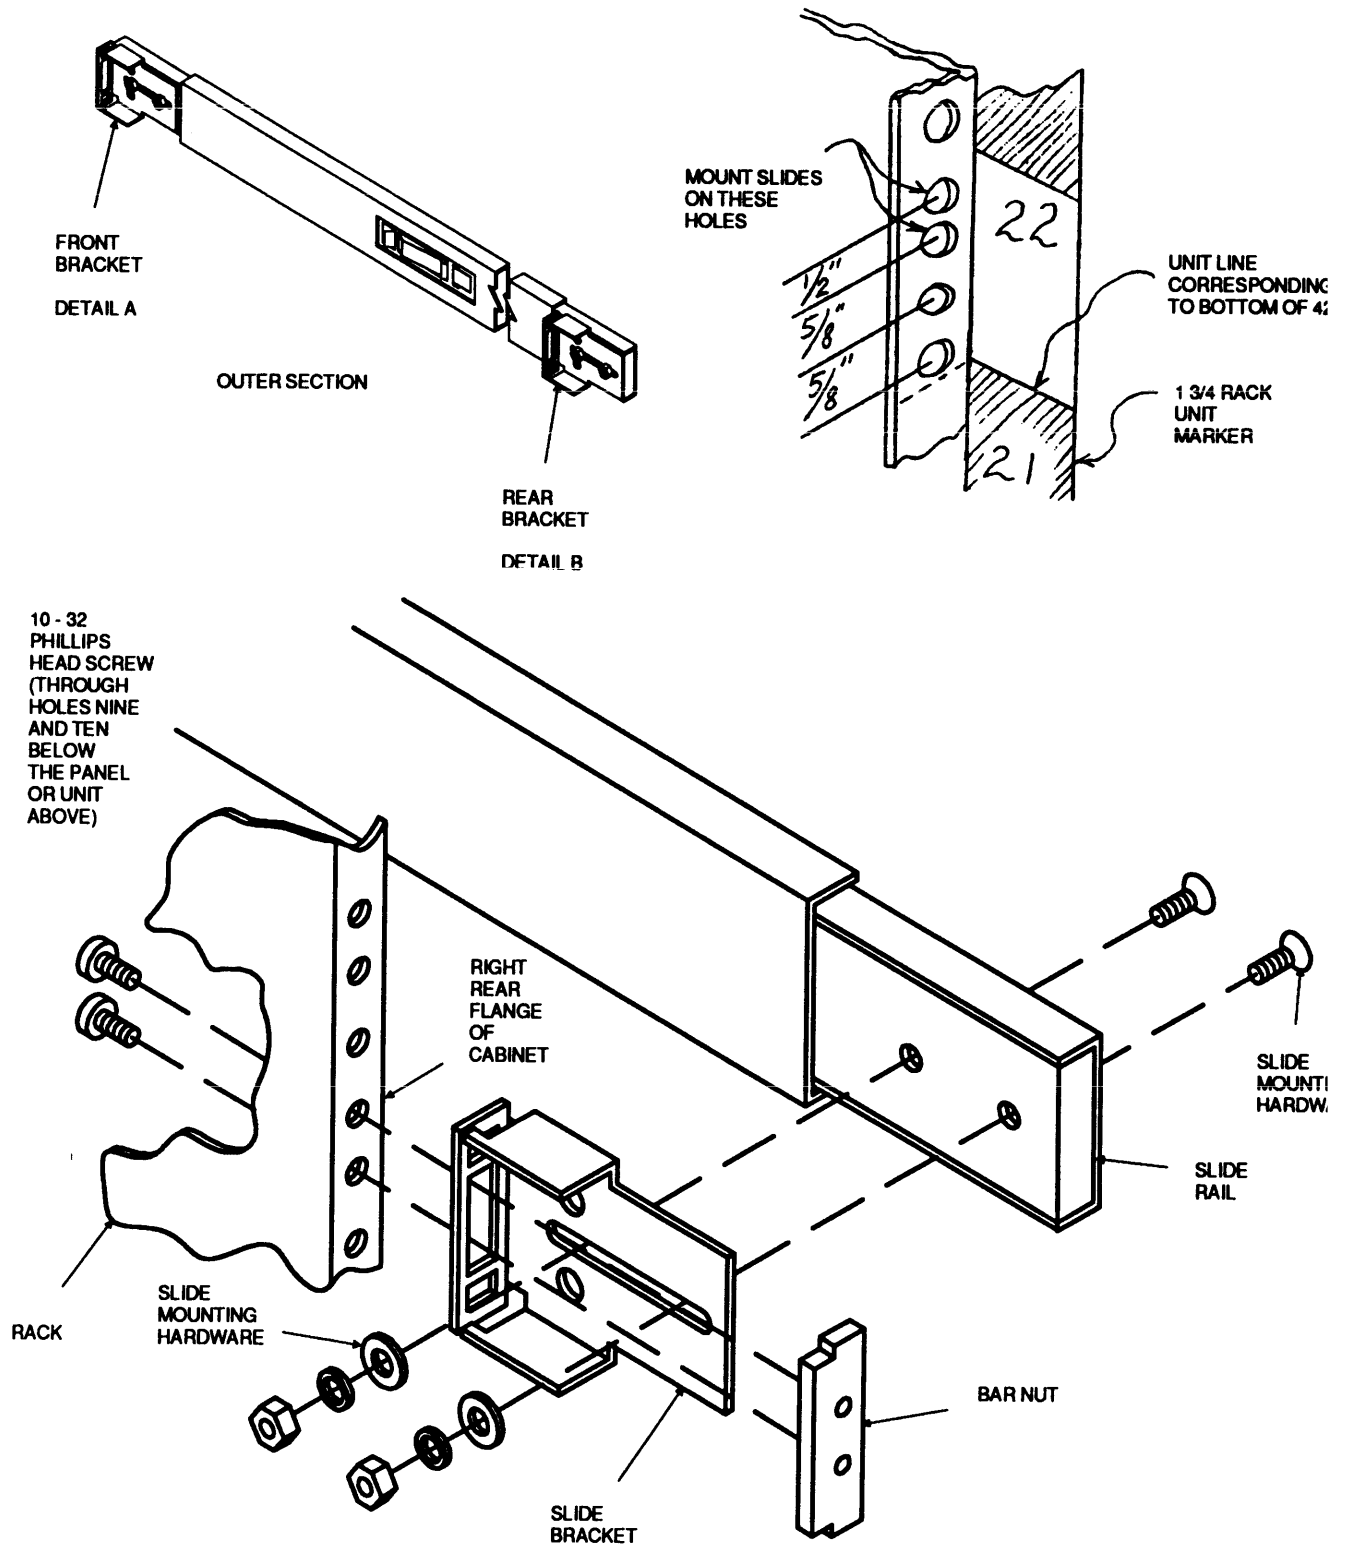

Figure 4.
Do the following to mount a 4280 into a cabinet, using Jonathan slide rails, PN 24019956. (Refer to Figure 4.)
- a. Move the window of the middle section so that the two adjusting screws on the front bracket show. Loosen these screws and adjust the bracket so that it is flush with the outer rail. Tighten the two screws. (Refer to Figure 4, Detail A.)
- b. Slide the middle rail forward and remove the rear bracket of the outer section. (Refer to Figure 4, Detail B.)
- c. To determine where to install the slide rails on the rack, count the holes in the rear flange of the rack, down from the panel or unit above. Insert the 10 - 32 Phillips head screws, with a #10 external tooth star washer on each screw, through holes nine and ten, leaving the head of the screw toward the rear of rack. (Refer to Figure 4, Detail C.)
- d. Mount the rear bracket to the rear rack holes with the bracket pointing toward the rear of rack. Secure the bracket with two 10 - 32 Phillips head screws (that you inserted in the previous step) going through rack hole first, then the bracket, and finally into the bar nut. (Refer to Figure 4, Detail C.)
- f. Mount the front bracket to the front of the rack behind the front rack holes, pointing toward the rear of the rack. Secure the bracket with two 10 - 32 Phillips head screws going through the rack hole first, then the bracket, and finally into the bar nut. (Refer to Figure 4.)